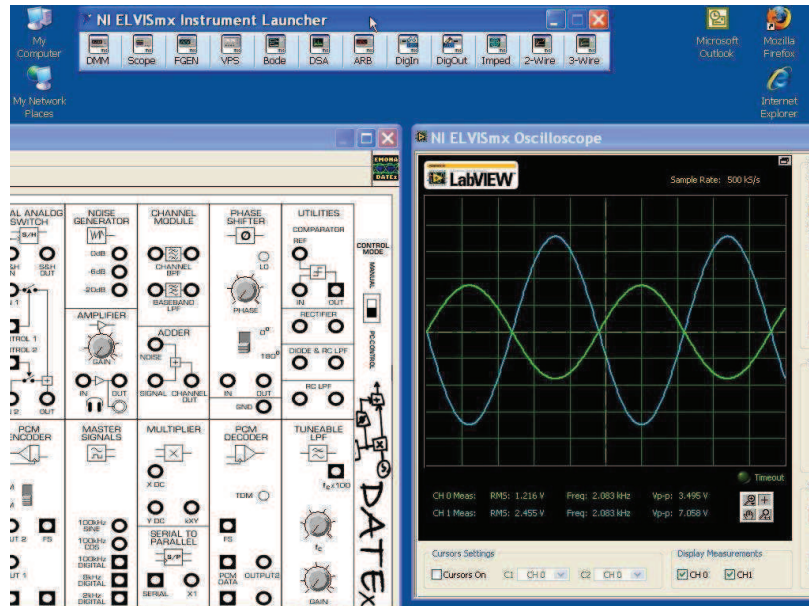

Figure 12
35. Adjust the positions of the DATEx SFP window and the scope's VI so that you're able to view the essential parts of both. An example is shown in Figure 12 below.